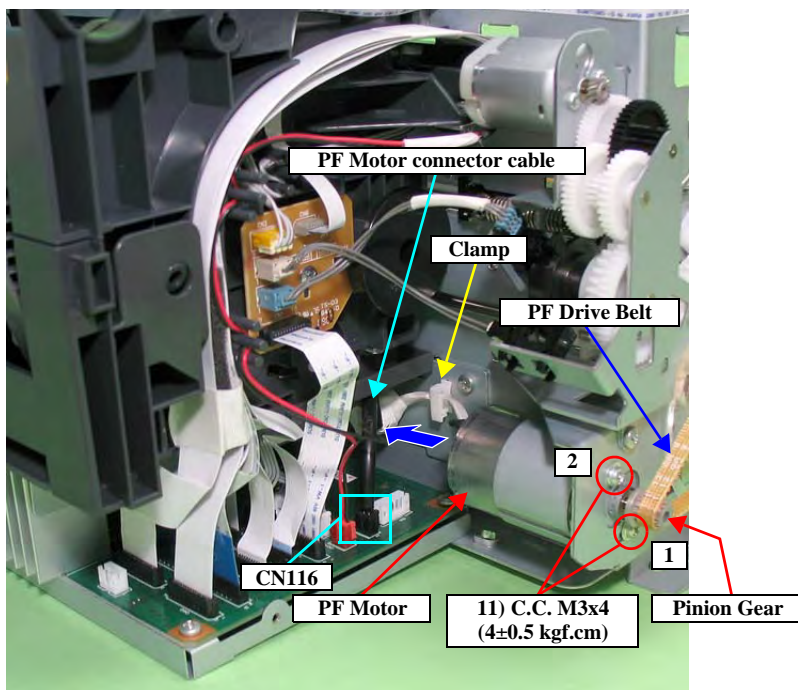

Figure 4-161. Removing the PF Motor
- Tighten the screws in the order shown in Figure 4-161